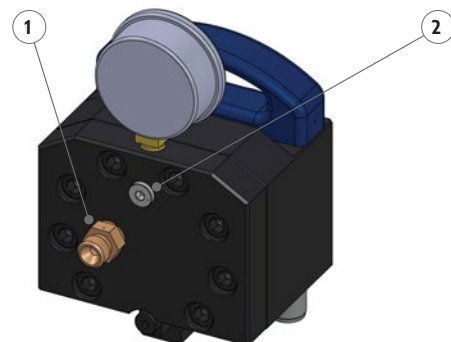

Figure 9: Hydraulic housing
8. Slowly loosen the venting screw on the back of the hydraulic housing with an Allen key approx. 4 turns until oil comes out free of bubbles. (Pos. ② Figure 9)
3. Loosen and remove the hydraulic hose on the rear of the hydraulic housing (Pos. ① Figure 9).
18. Reattach the hydraulic hose to the housing (Pos. ① Figure 9).